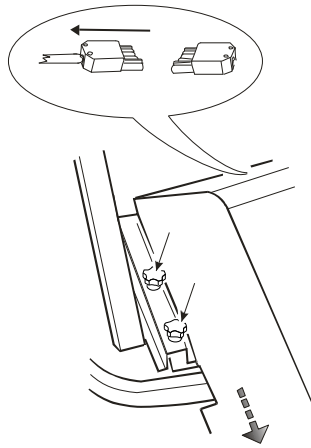

Fig. 11
2. Loosen the two knobs and pull the boiler outwards. (fig. 11).